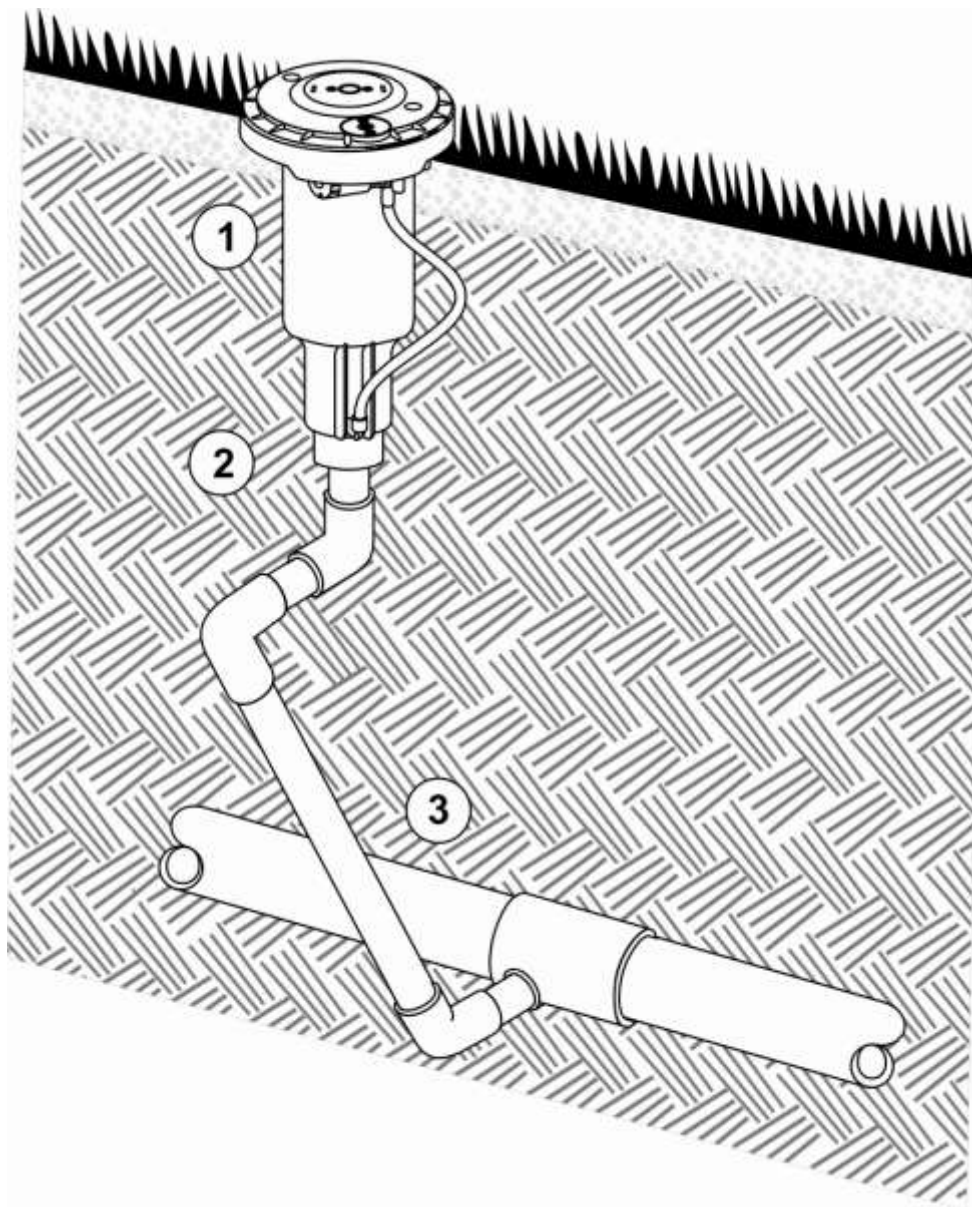

Figure 3 Swing Joint Configuration.
1. Construct or provide triple swing joints for each sprinkler as shown in Figure 3. Use PVC or ABS pipe nipple for the sprinkler connection.